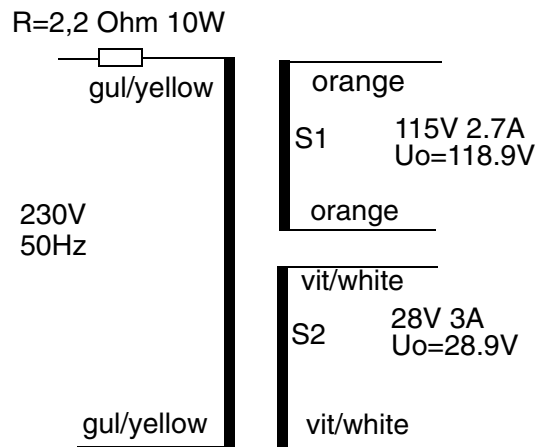

Figure 22 Transformers.
**Power supply:** See Figure 22 on page 56 - Transformers.